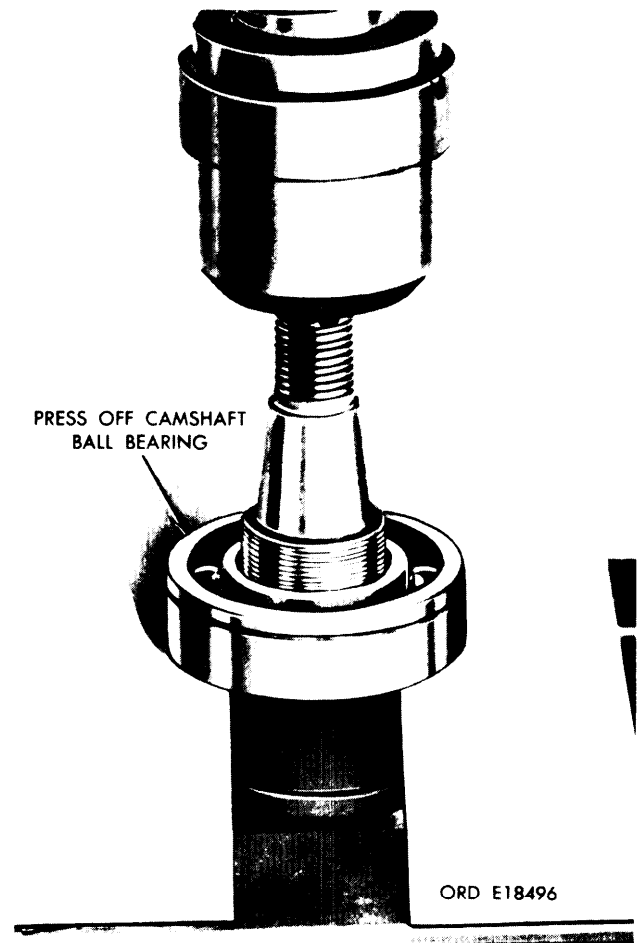

Figure 3-106. Pressing camshaft ball bearing from camshaft.
(2) Refer to figure 3-106. Press camshaft ball bearing from camshaft.